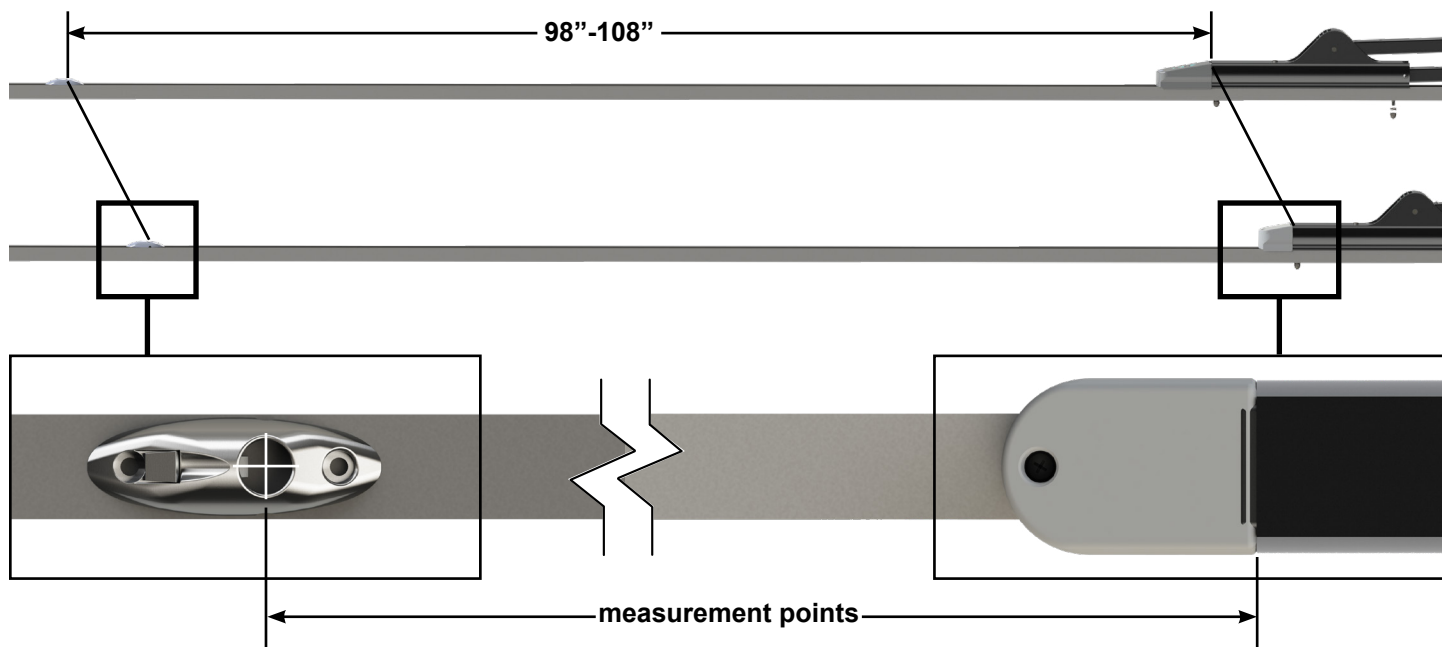

Fig.14
D. Use a tape measure and a non-permanent marker to make sure each locking plate is located the same distance, between 98"-108" from the front of the actuator body (Fig.14).